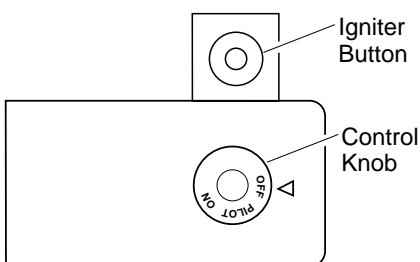

Figure 23 - Control Knob and Igniter Button Location (Shown as Supplied, No Control Options)
5. Wait five (5) minutes to clear out any gas. Then smell for gas, including near the floor. If you smell gas, STOP! Follow "B" in the safety information, page 12 column 3. If you don't smell gas, go to the next step.
6. Press in and turn control knob counterclockwise to the PILOT position. Press in control knob for five (5) seconds (see Figure 23).